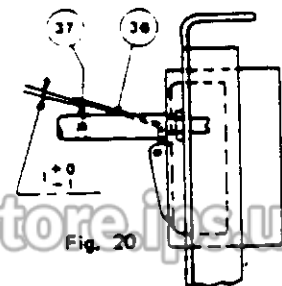

Fig. 20
- A. Adjustment (Fig. 20). Place breaker in closed position with overcurrent and short circuit release bar latched. De-